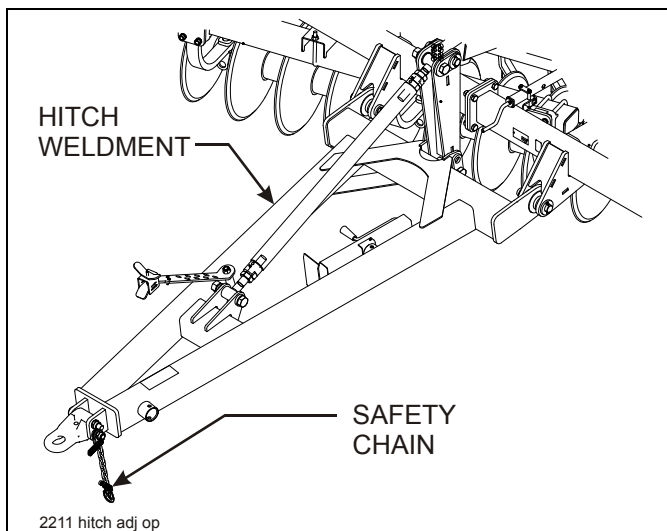

Figure 4-13: Hitch and Safety Chain
- b. Attach the safety chain to the tractor drawbar (See Figure 4-13.) Provide only enough slack in the chain for turning. Do not use an intermediate chain support as the attaching point for the chain on the tractor. Do not pull the implement by the safety chain.